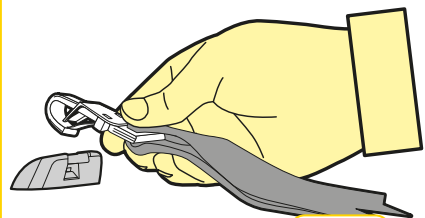

Figure 8
Step 6: Hook the attachment clip to the upper anchor fitting (refer Figure 8). Ensure there are no twists in the top tether strap.